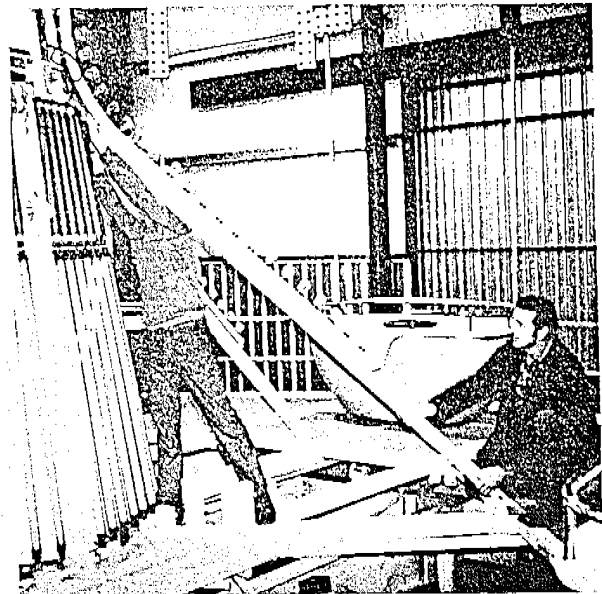

Fig. 50
- (1) Fit the top end of a brace between a set of double ears at the top of the center cone. Align the holes in the brace with those in the ears. Run a pin through all holes. *Snap Key In Place.* (Fig. 50)